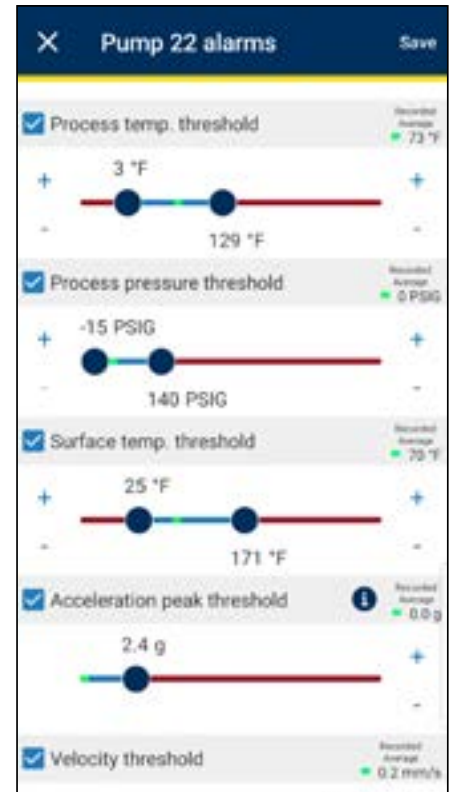

Figure 8
3. Alarms are disabled by default (grayed out). Tap on the empty check box above the slider to enable the alarm. Then adjust the slider to establish the min/max limits for your sensor (see figure 8). If measurements go above/below these limits, the Mobile App and LED alert system will alert you of any undesirable events.
Note: The average measurement recorded value is displayed both on the slider line as well as the upper right next to each measurement description. See green marks on figure 8.